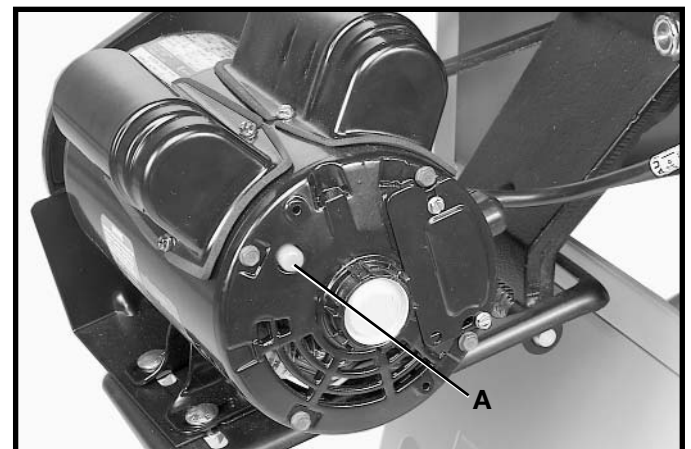

Fig. 97
The motor recommended for use with your saw is equipped with a reset overload relay button (A) Fig. 97. If the motor shuts off or fails to start due to overloading (cutting stock too fast, using a dull blade, using the saw beyond its capacity, etc.), or low voltage, turn the switch to the “OFF” position, let the motor cool three to five minutes and push the reset button (A), which will reset the overload device. The motor can then be turned on again in the usual manner.